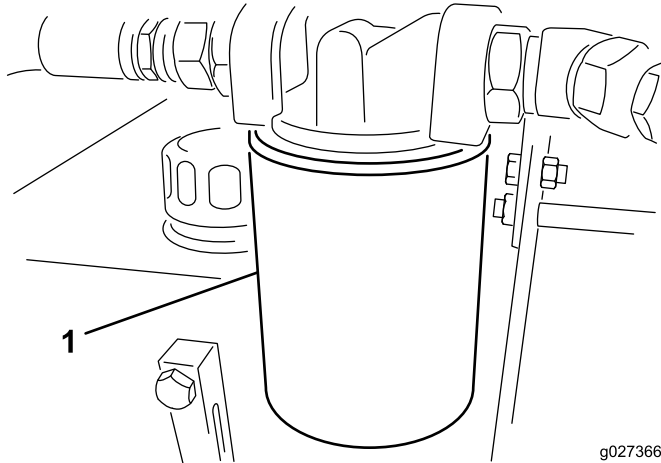

Figure 11
3. Place a drain pan under the filter and remove the filter (Figure 11).